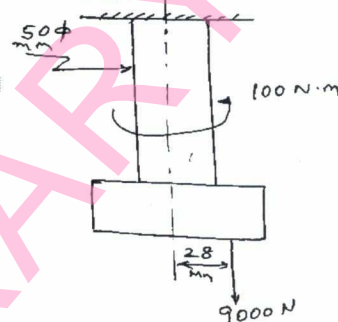

Fig. Q1 (c)
- c. A 50 mm diameter steel rod supports a 9.0 kN load and in addition is subjected to a torsional moment of 100 N-m as shown in Fig. Q1 (c). Determine the maximum tensile and the maximum shear stress. (08 Marks)